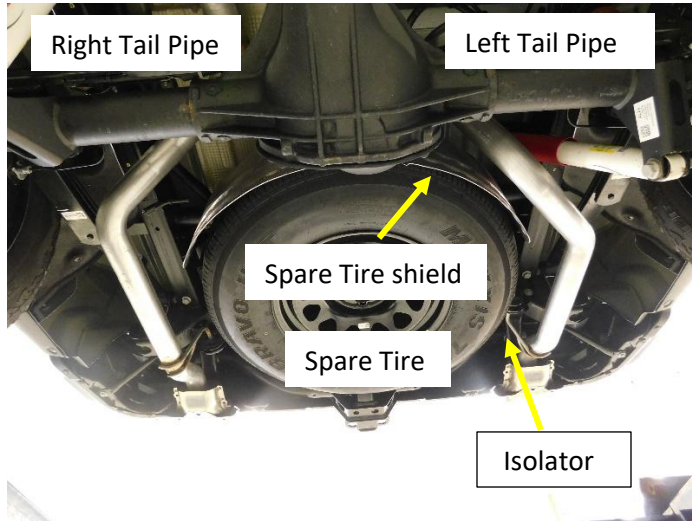

Figure.3
5. Remove the spare tire and (x6) bolts on the spare tire shield. **Fig.3**
7. Remove the 15mm bolt from the left tail pipe isolator and remove the isolator. **Fig.3**